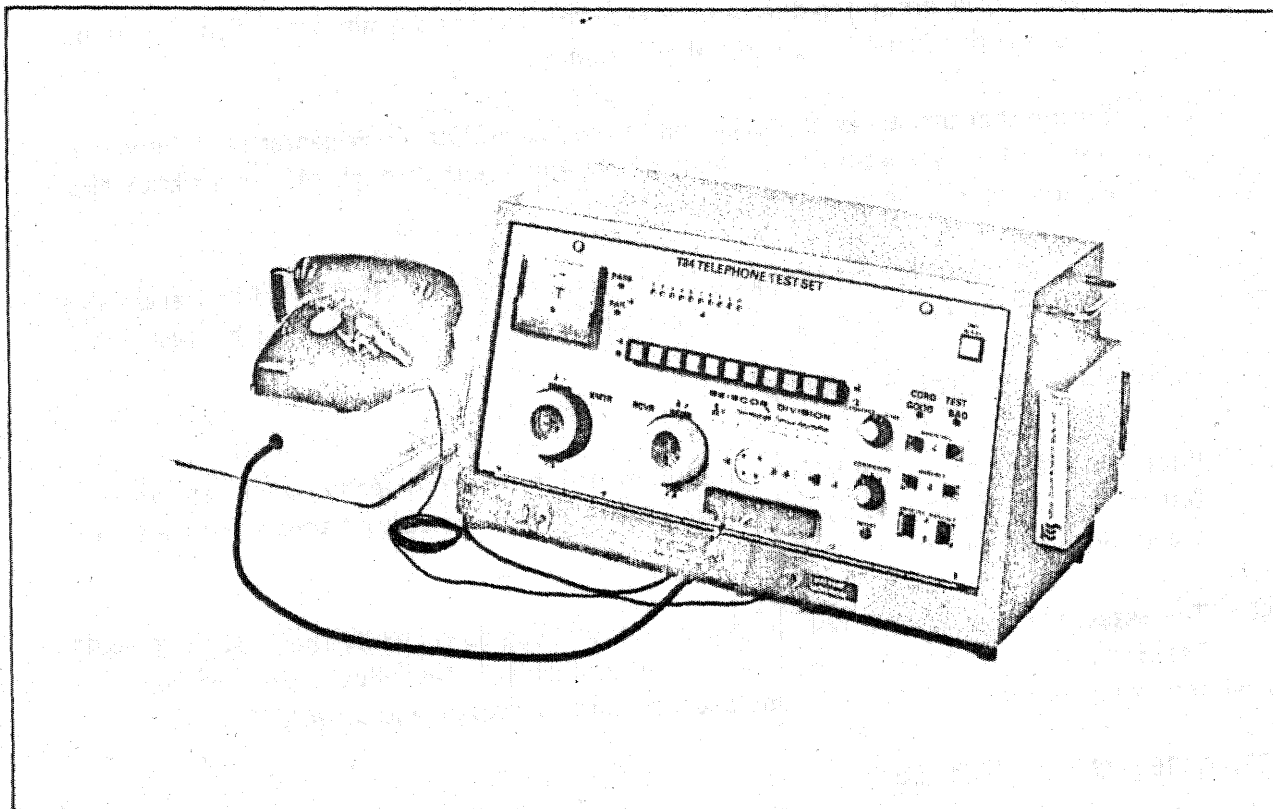

Fig. 5—Typical Test Setup Using The T-84 Telephone Test Set and T-6 Base
- 4.02 Test setup procedures for telephone equipment that can be tested by the T-84 (or T-84R) Test Set and accessory equipment are detailed in the steps that follow. Fig. 5 depicts a typical test setup using the T-84 Test Set and standard accessory equipment.